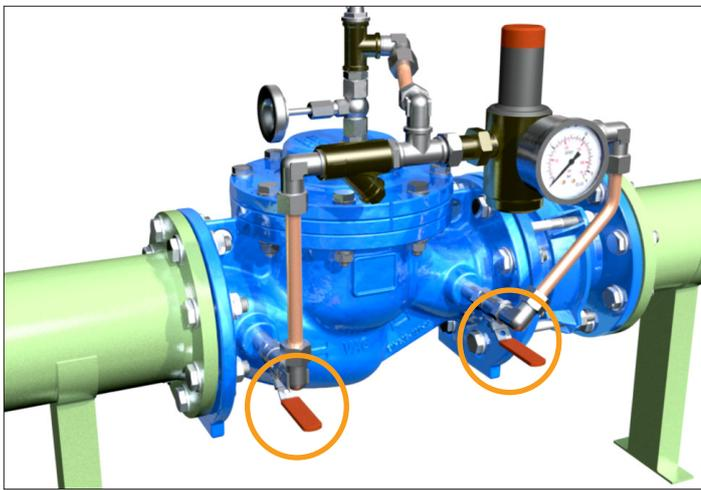

Figure 7: Open ball valves with manual levers running in parallel to the piping of the control circuit
3. Put all ball valves at the control circuit into open position. The ball valves are open when the manual levers run in parallel to the piping of the control circuit (see Figure 7). Make sure that the venting valve is completely closed.